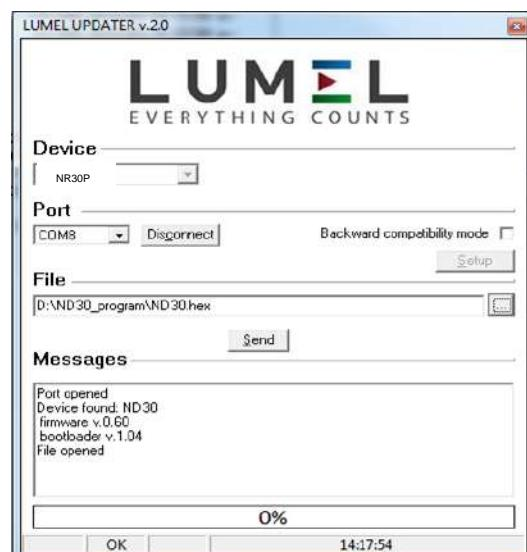

Fig.24. View of program window: a) eCon, b) firmware upgrade
After starting eCon the serial port, speed, mode and meter address should be set in the settings. Then select NR30PNET meter and click Configure To read all the settings, click the down arrow, then the floppy icon to save the settings to a file (to restore them later). After selecting *Update firmware* (in the upper right corner of the screen) Lumel Updater (LU) window will open - Fig. 24.b. Press Connect. Messages information window contains info about the progress of the upgrade process. When the port is properly opened the display shows: *Port opened*. There are two ways to enter the upgrade mode: remotely through the LU (based on settings in eCon - address, mode, speed, COM port) and by turning